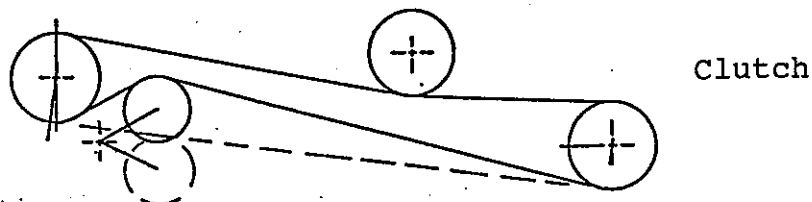

Fig. 3. Cutter Deck Drive Belt
3.5.7 Install cutter deck drive belt. First slip belt between clutch drive sheave and drive wheel release rod and make sure belt is in the sheave groove. Place the other end of the belt over the cutter deck drive sheave and rotate this sheave for belt to slip into sheave groove. Next, pull idler assembly back to allow belt to engage idler sheave. Last, check fixed idler sheave to make sure belt travels in the idler sheave groove also. Replace the center cutter deck belt shield. See Figure 3.